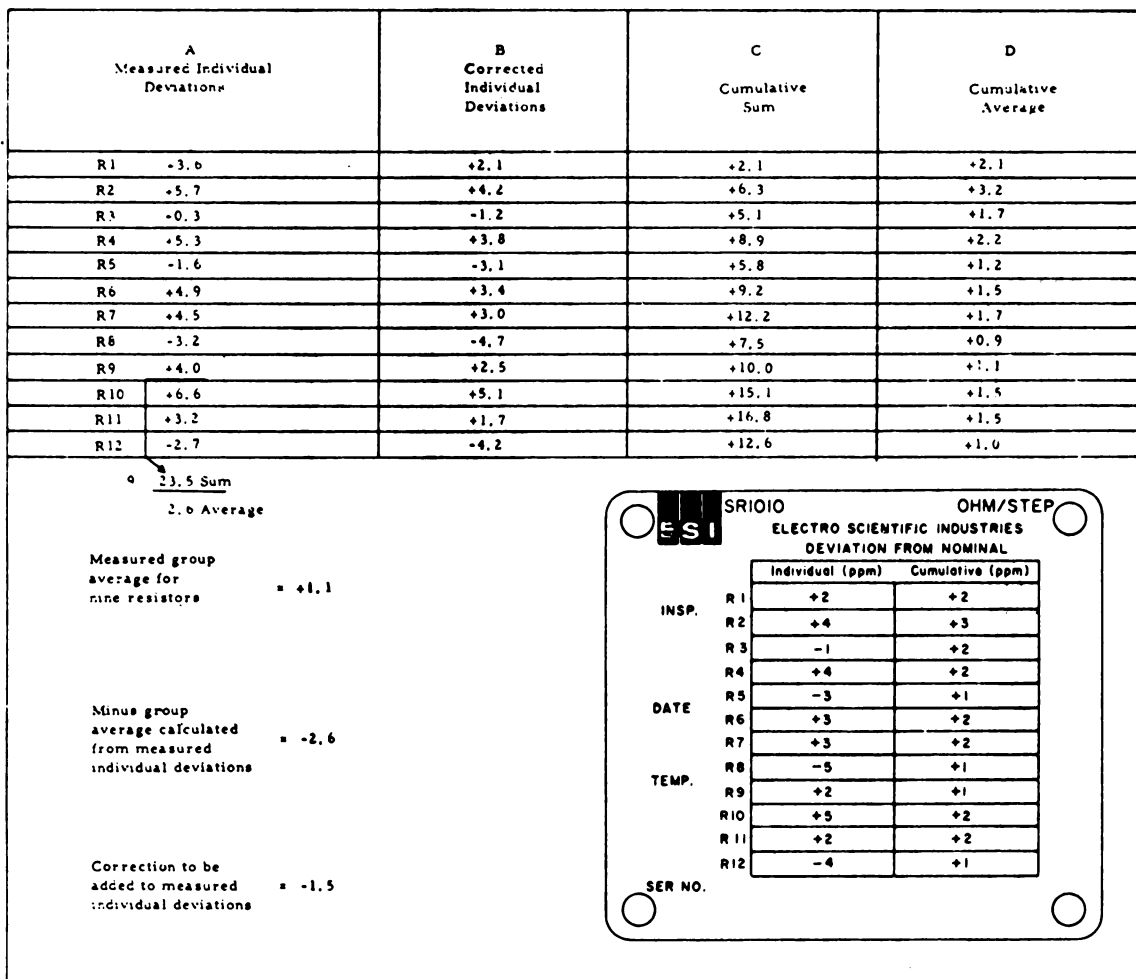

Figure 1-32. Calibration chart calculations.
To accomplish the necessary changes in deviation values listed on the box calibration chart, compare each resistor in the 1 ohm decade with the Thomas-type 1 ohm standard and calculate correction values. These correction values are applied to the measured values and the final corrected values listed, as shown in column A of figure 1-32. By connecting each resistor of the 1 ohm box (SR 1010 or equivalent) to the unknown terminals of a measurement bridge and by using the Thomas-type 1 ohm resistance standard, you can determine the deviation from nominal value for each resistor of the decade. Record these values in parts per million. To determine the average deviation in ppm, you merely sum the deviations for the first nine resistors and divide by 9. This process of determining the
average (mean) linearity deviation is illustrated by the chart of figure 1-32.
Analyzing the chart of figure 1-32, you can see that the average deviation of the first nine resistors listed in column A is 2.6 ppm. The calculation may be written in the form of the equation
column B (corrected individual deviations) are computed as indicated on the chart. If the first 9 or 10 resistors were paralleled and connected as a unknown bridge resistance, a value (measured group average) such as the 1.1 ppm shown in figure 1-32 would result.
As indicated by the chart, the calculated group average (2.6 ppm) determined from individual deviation values is subtracted from the measured group average (mean -1.1 ppm). This subtraction resulted in a correction factor (-1.5) which was added to all of the measured deviation values in the first column (A), providing the corrected individual deviation values for column B (fig. 1-32). We get the values in column C by adding each corrected deviation value in column B to the preceding cumulative deviation value in column C. The values listed in Column C represent cumulative deviation values of groups of resistors whose individual corrected deviation values are listed in column B. These cumulative deviations and their respective groups can be identified as:
In the chart of figure 1-32, you can see that the corrected individual deviation values listed in column B have been rounded off and listed in the first column of the decade calibration chart (inset in fig. 1-32). A close look at column
D will show that these values have been rounded off and listed in the second column of the decade calibration chart (inset in fig. 1-32). Compare the values in the inset in figure 1-32 with the values shown in the chart of figure 1-32.
Upon completion of the calibration of the resistors in the 10 ohm box, you will list the resultant nominal deviation values in the calibration chart for the 10 ohm box in the same manner as the values for the 1-ohm box were listed in the chart shown in figure 1-32. It should be obvious at this point that you will use the same method and principle used in the calibration of the 1- and 10-ohm boxes to calibrate the 100- and 1000-ohm (1 kilohm) boxes.